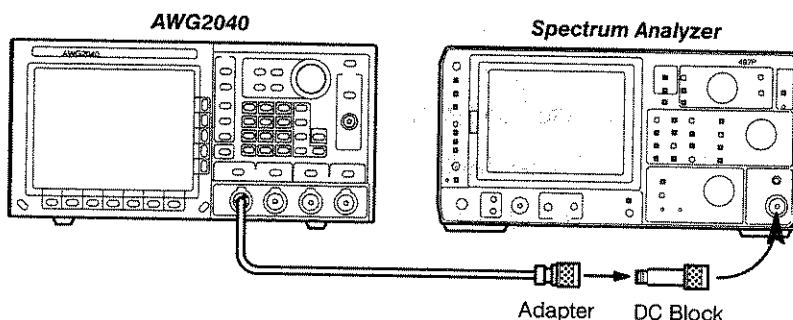

Figure E-15: Sine Wave Initial Test Hookup
- a. *Hook up the spectrum analyzer:* Connect the AWG2040 CH1 output connector through the coaxial cable, adapter, and DC Block to the input connector on the spectrum analyzer (see Figure E-15).